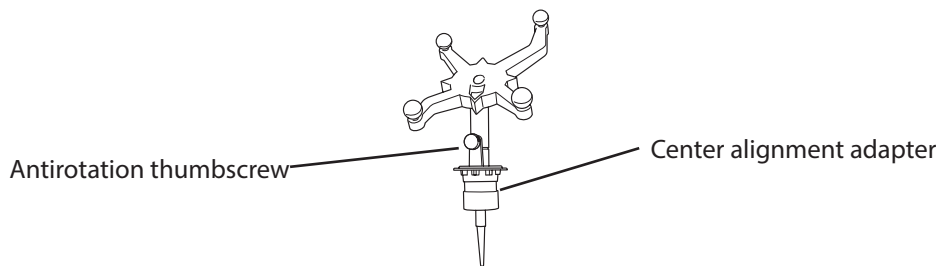

Figure 13. The Nexprobe Model NP-1000 Image-guided Probe with reflective spheres and the center alignment adapter attached.
1. Remove the Nexprobe Model NP-1000 Image-guided Probe (Figure 13) from the packaging.
4. Attach the probe to the center alignment adapter from the DB-2040 Nexframe and fully tighten the antirotation thumbscrew (Figure 13).